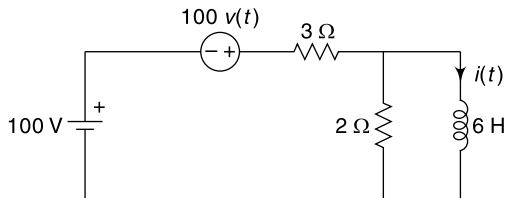

Fig. 14.72
14.82 Find the expression for $i(t)$ in the circuit shown in Fig. 14.72.
Let us first find out the Thevenin's equivalent of the circuit shown in Fig. 14.72. Thevenin's